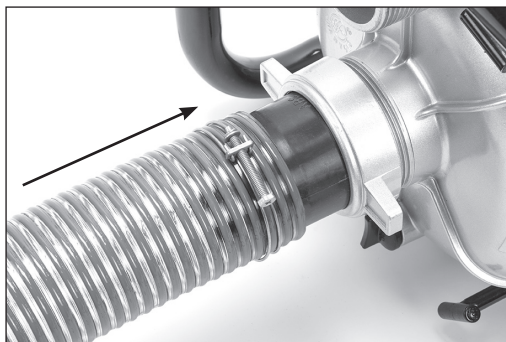

Fig. 3
4. Slide a hose clamp (D) over one end of the solid wall hose (not supplied) and push that end of the hose as far as possible onto the hose barb (Fig. 3).